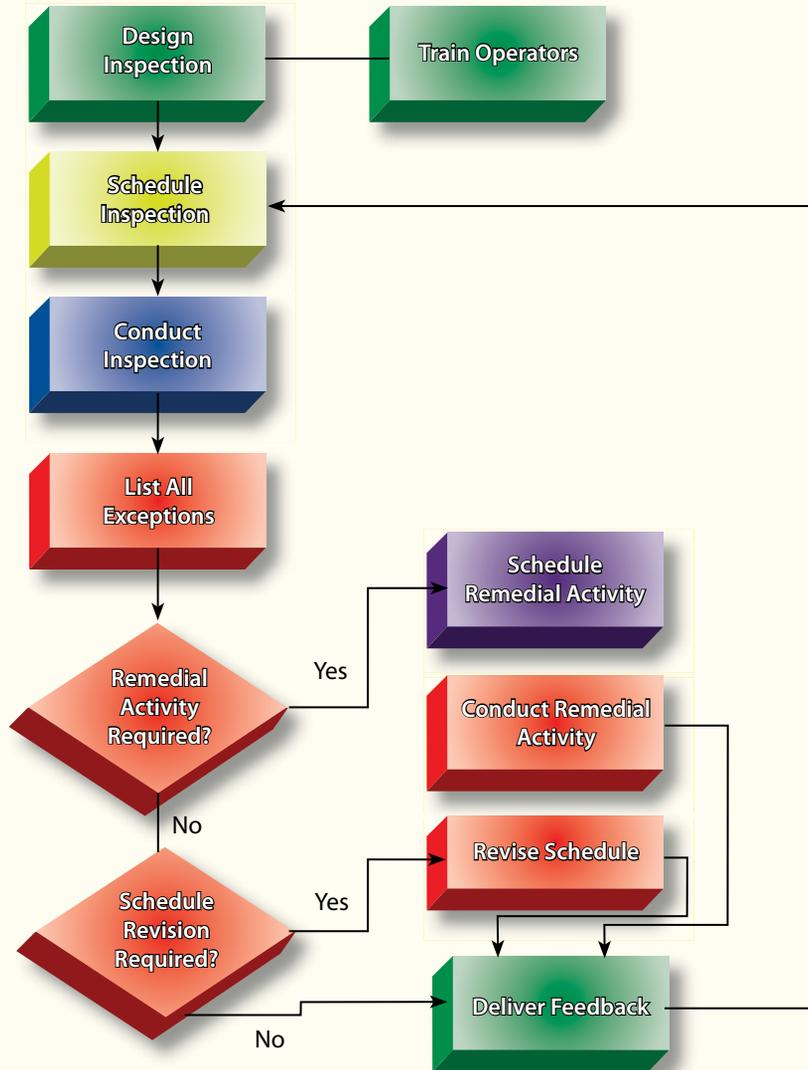

Figure 1 - Inspection Cycle Workflow
- Setting up the inspection routes (see Figure 1).